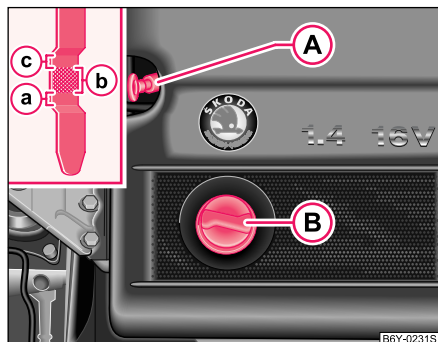
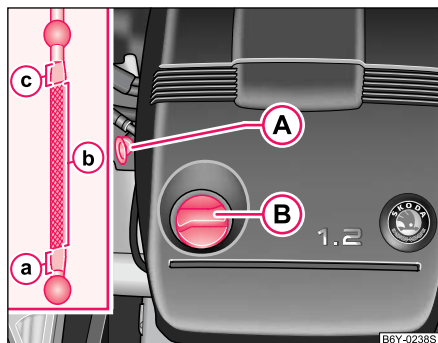

Fig. 127 Oil dipstick on the 1.4 litre/74 kW engine.
Fig. 128 Oil dipstick on the 1.2 litre/40 kW engine.
For clarity, the figure shows only part of the engine compartment with a 1.4 litre/74 kW engine $\Rightarrow$ page 175, fig. 127 and a 1.2 litre/40 kW engine $\Rightarrow$ page 175, fig. 128.
- Unscrew the cap of the engine oil filler opening  $\Rightarrow$ page 175, fig. 128.